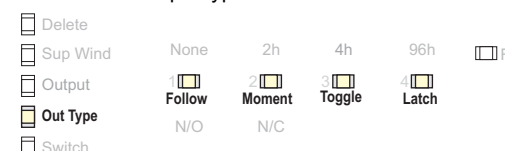

Figure 6 Select the output type
5. Use the advance button to select the output type (Fig. 6),